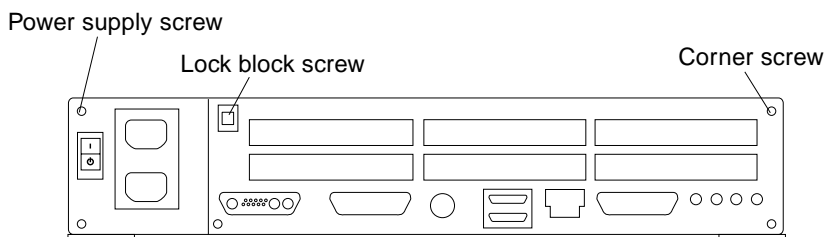

FIGURE 7-1 Lock Block Screw and Corner Screw
- 2. Loosen the screw on the corner of the back panel (FIGURE 7-1).**
- 3. Loosen the screw securing the lock block to the cover. Remove the lock block and place it aside (FIGURE 7-1).**